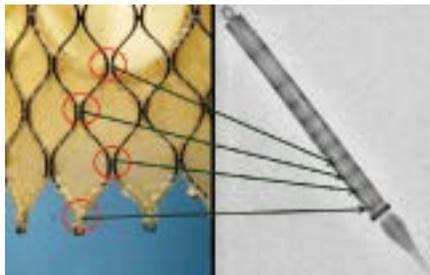
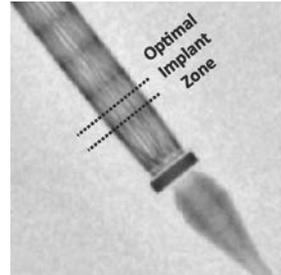
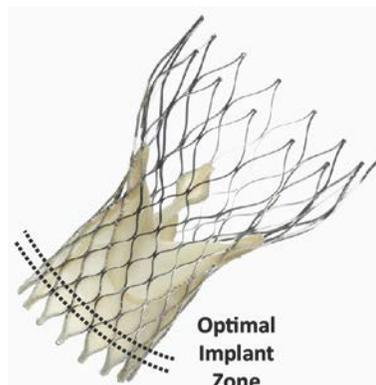

Figure 28
Figure 29
Figure 32
21. Note the radiopaque bands (Figure 28). Follow the diagrams in Figure 29 and Figure 32 for the optimal placement of the bioprosthesis. The bioprosthesis should be placed so that the skirt is within the aortic annulus (approximately 4 mm to 6 mm below the annulus). The annulus is defined as the angiographic floor of the aortic root.
25. Perform an angiogram to assess the location of the bioprosthesis. Refer to Figure 29 and Figure 32 for the optimal placement of the bioprosthesis skirt within the aortic annulus (approximately 4 mm to 6 mm below the annulus).